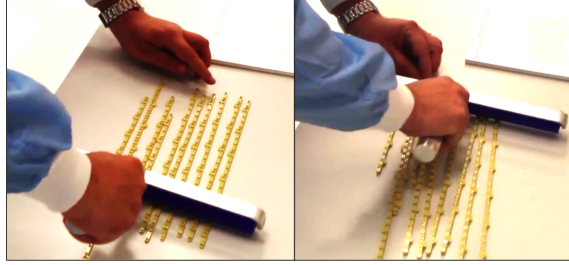

Figure 53: Cleaning of the 3mm internal frames.
Step 4: Use the static roller to clean the 3 mm internal frames. Flip the frames upside down and repeat the process (Fig. 53). This set of frames, equipped with the brass inserts, will form the drift gap.